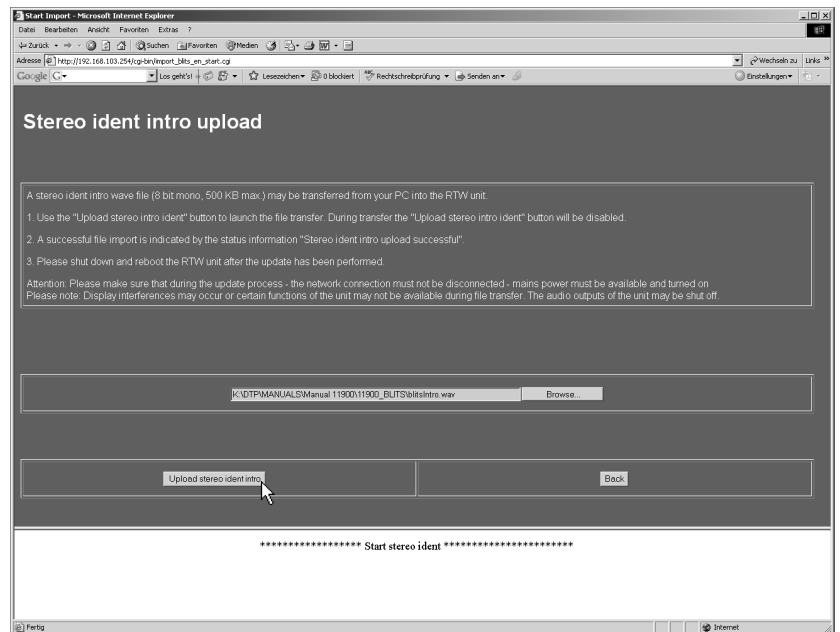

Fig. 8-34: Starting the upload
5. A click to the Upload stereo ident intro button starts the data transfer to the SurroundMonitor units (see Fig. 8-34). If the Upload stereo ident intro button is not visible move the menu page upward by using the scrollbar on the right. **Please make sure that no interruption of the network access or supply power occurs during the download sequence.**